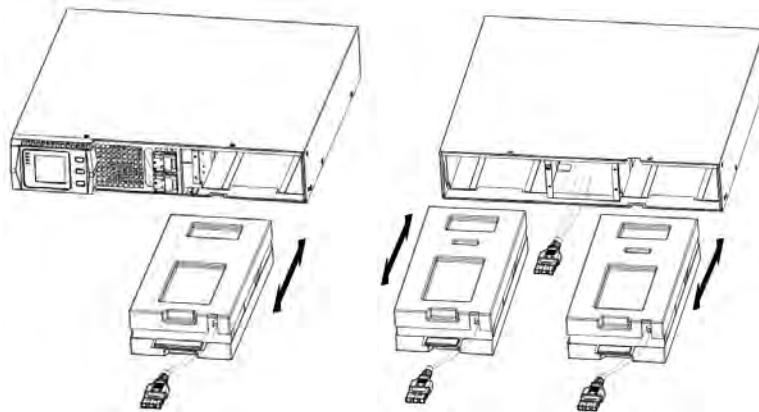

FIG.26 Remove the battery park
4. Grasp the handle in front of the battery pack, take out of it and hold it, then remove the battery pack as fig. 26 shown.